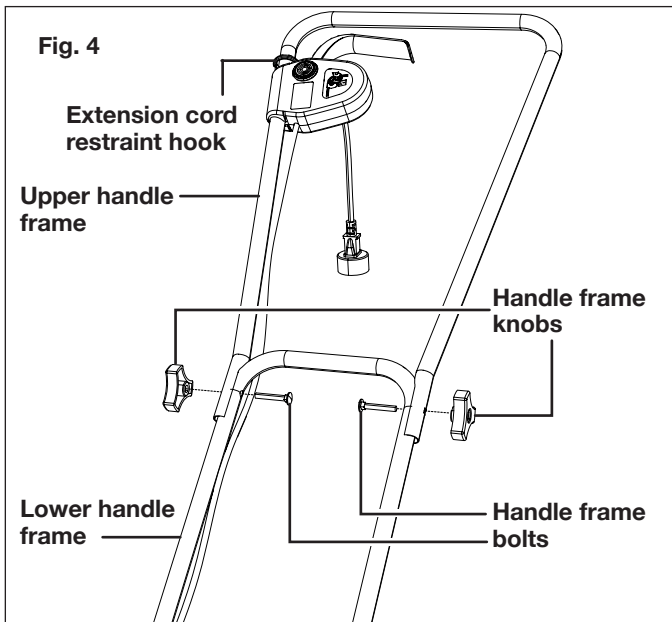

Fig. 4
4. Before assembling the upper handle frame, slide the extension cord restraint holder on the upper handle frame (Fig. 4).
5. Align the upper handle frame with the holes on the upper end of the lower handle frame, and insert the handle frame bolts into the holes from the inside (Fig. 4).
6. Secure the upper handle frame by tightening the upper handle knobs on the ends of the upper handle bolts (Fig. 4).